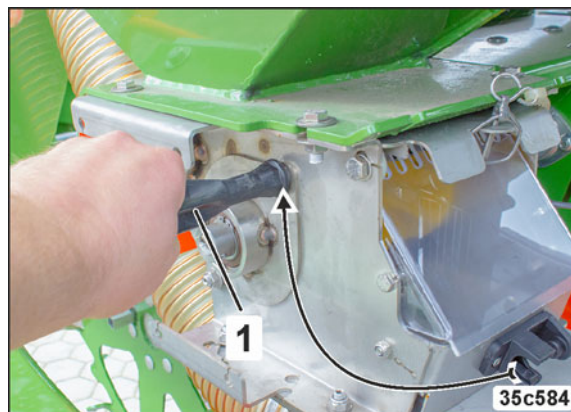

Fig. 190
3. Loosen two nuts with the supplied tool (Fig. 190/1), but do not remove them.